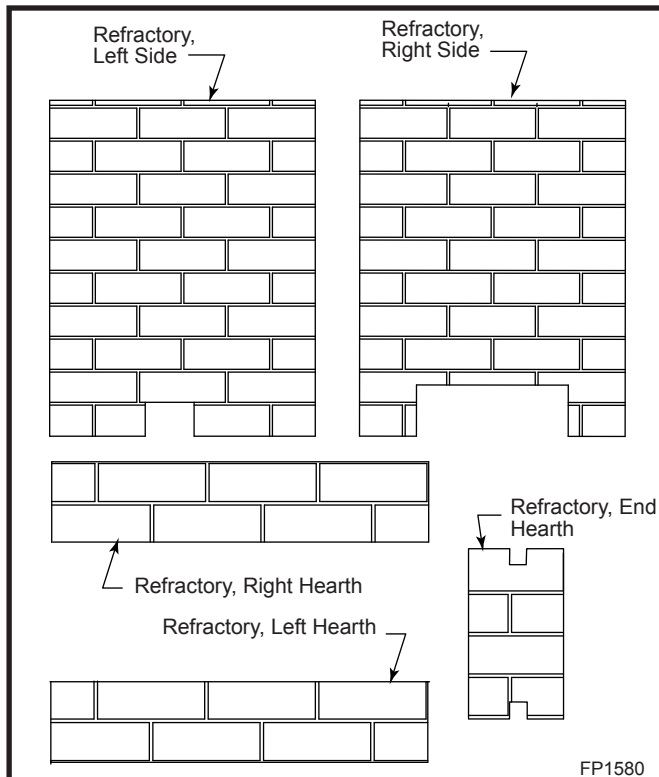

Fig. 40 Ceramic refractory panels.
- Using a Robertson screwdriver, remove the two (2) nuts holding each fettle to the burner assembly.
- Identify the side refractory. The refractory with the small cut out at the bottom must be installed on the side where the plumbing for the pilot and manifold are. The other side refractory has a larger cut out at the bottom. This is designed to allow the opening for the fresh air coming to the combustion chamber unobstructed. (Fig. 40)
- Start with either the right side refractory or left side refractory. Hold the refractory at an angle. Slide and seat the bottom edge toward the bottom of the firebox. Tilt it carefully toward the side until the piece is in place. Using the two (2) brackets and four (4) screws provided with the refractory kit, fasten each bracket to the top of the firebox on each side. **NOTE:** Use existing holes in firebox.